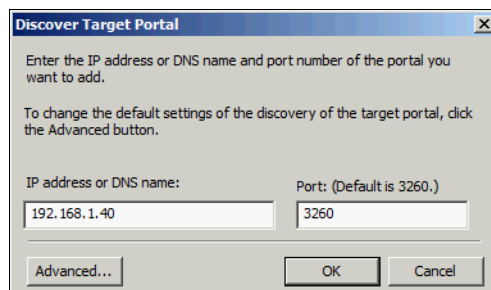

Figure 12-17 Discover Target Portal window
- Click **Discover Portal...**, enter the IP address of another IBM Flex System V7000 Storage Node iSCSI port (Figure 12-17), and click **OK**.